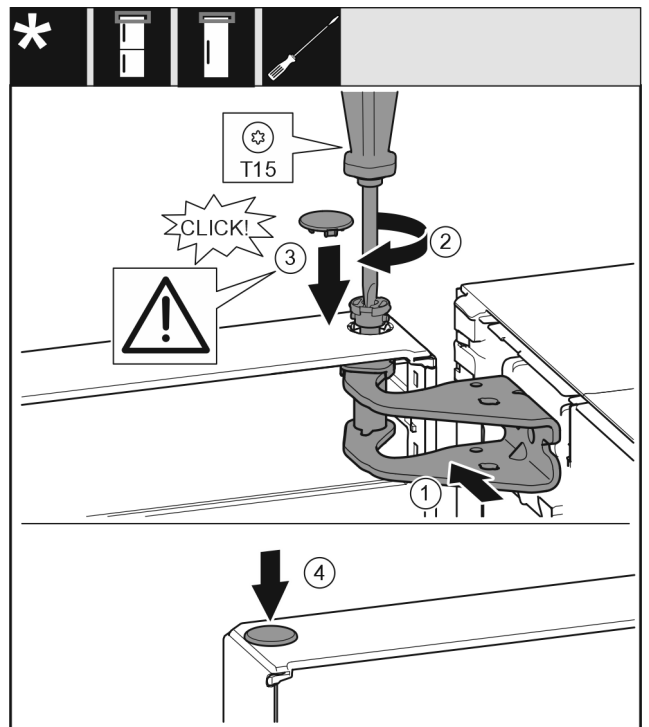

Fig. 22
- ▶ Align the top of the door with opening in the bearing bracket. Fig. 22 (1)
- ▶ Insert the bolt and tighten with a T15 screwdriver. Fig. 22 (2)
- ▶ Fit the protective cover to protect the door: Insert the protective cover and check that it lies flush on the door. If not, insert the bolt fully. *Fig. 22 (3)*
- ▶ Insert the plugs. *Fig. 22 (4)*